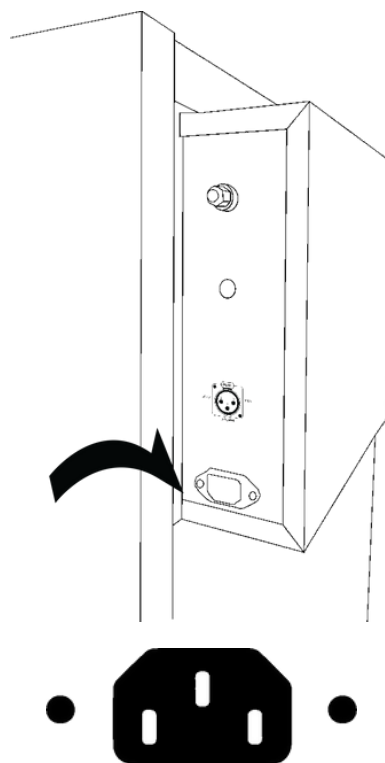

Fig 2. 10 amp male IEC socket
- On the incubator itself is a 10 amp male IEC socket. (**Fig 2**)